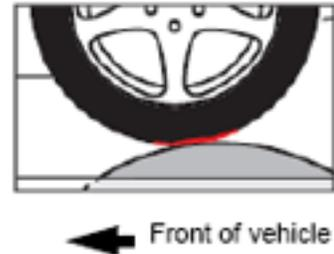

Figure 6-3 Wheel position
2. Drive the vehicle onto the rolls with the primary drive wheels centered laterally on the surface of the roll. Set the tires slightly forward of the top but it is not necessary to be positioned very accurately at this point (Figure 6-3). Front wheel drive vehicles should always have the drive wheels on the forward side of the roll. If not, the vehicle may be unstable.